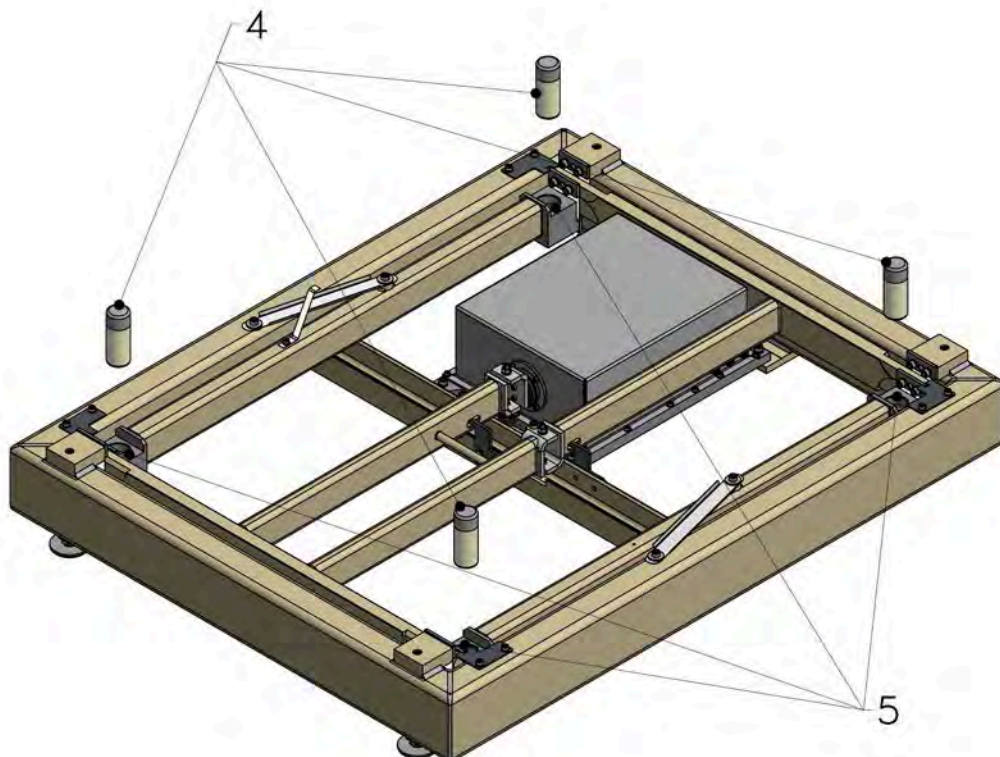

Fig.3
3. Place mandrels (4) for the weighting pan support in lever seating (5). (Fig.3)